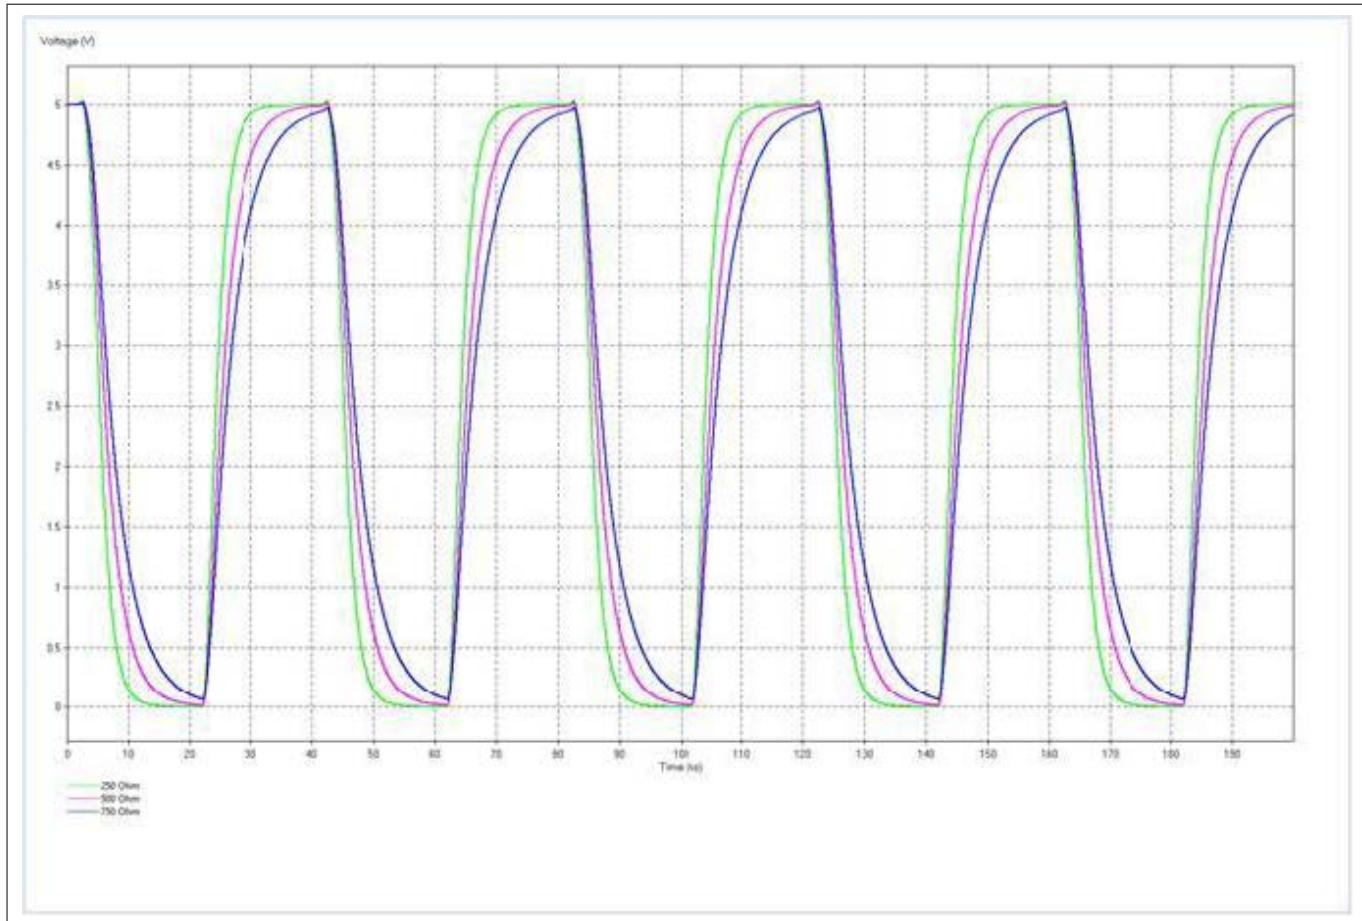

Figure 7
- Figure 7 Simulation results (IBIS model) for HSCT/HSSL configuration with dedicated master/slave supplies